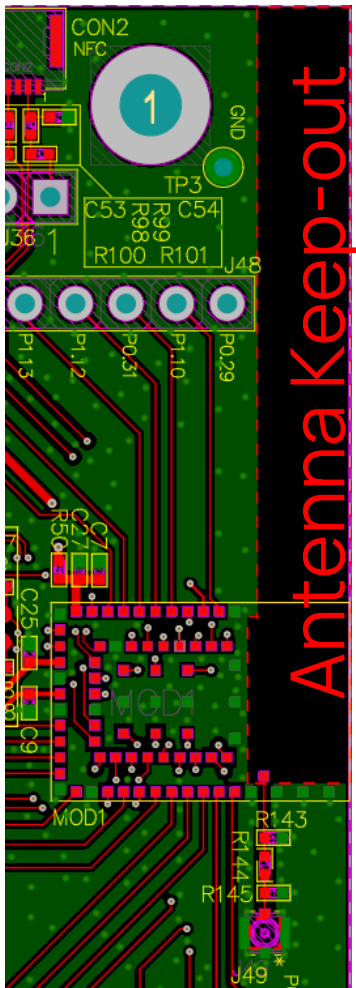

Figure 14: PCB trace Antenna keep-out area (shown in red), corner of the BL5340 development board for the 453-00052 module.
- The BL5340 development board (453-00052-K1) has the 453-00052 module on the edge of the board (not in the corner). The antenna keep-out area is defined by the BL5340 development board which was used for module development and antenna performance evaluation is shown in **Figure 14**, where the antenna keep-out area is ~4.7 mm wide, ~39.17 mm long; with PCB dielectric (no copper) height ~1 mm sitting under the 453-00052 PCB trace antenna.
- Host PCB land pattern and antenna keep-out for the BL5340 applies when the 453-00052 is placed in the edge of the host PCB preferably in the edge center. **Figure 14** shows an example.